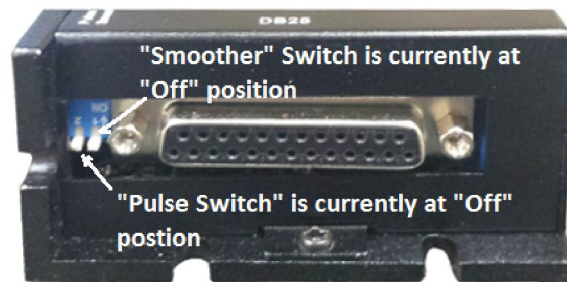

Figure 11 On/Off positions for “Pulse Switch” and “Smoother” Switches
*The ON/OFF direction for the “Pulse Switch” is different from the ON/Off direction of the DIP switch in a stepper drive module, which is used to configure the output current and micro step by a stepper drive module. Refer to Figure 11.*
*The ON/OFF direction for the “Smoother” switch is different from the ON/OFF direction of the three DIP switches for the 3 stepper drive modules, which is used to configure output current and micro step by a stepper drive module. Refer to Figure 11 for “Smoother” switch direction.*